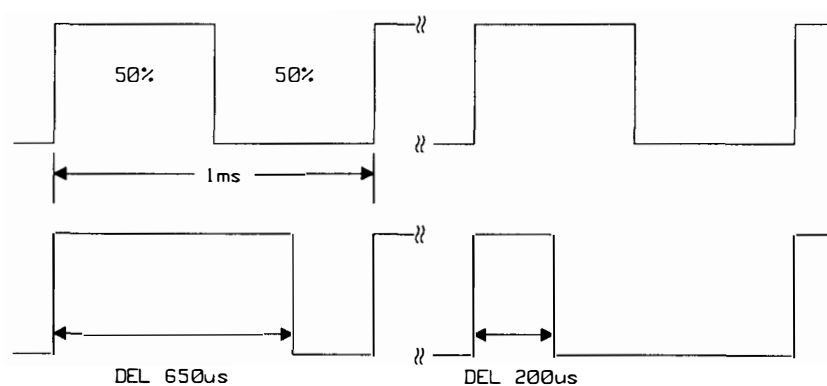

Figure 10.3-11. Delay Generator I/P O/P waveforms
2. Check the input signal from the period generator pin 7 of U220 against Figure 10.3-11.
4. Check the signal being sent to the width generator IC240 at TP2 against Figure 10.3-11.